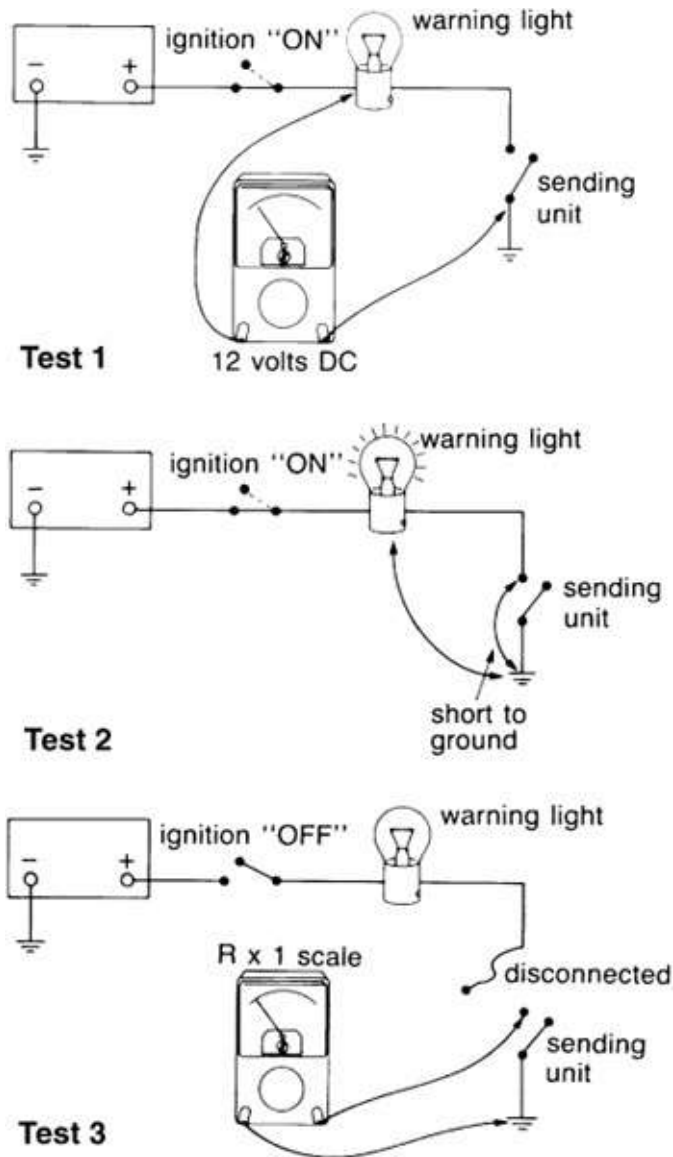

FIGURE 5-34. Testing a warning light, or alarm, circuit.
1. Test for 12 volts between the alarm or light positive terminal and a good ground (see Figure 5-34, Test 1). No volts—the ignition circuit is faulty; 12 volts—proceed to the next step.
2. To test the alarm or light itself, disconnect the wire from the sending unit and short it to a good ground (see Figure 5-34, Test 2). The alarm or light should come on. If not, conduct the same test from the second terminal on the back of the alarm or light (the one with the wire going to the sending unit) to a good ground. No response—the alarm or light is faulty; response—the wire to the sending unit is faulty.
3. If the alarm or light and its wiring are in order, the sending unit itself may be shorted (the alarm or light stays on all the time) or open-circuited (it never comes on, even when it should). Switch off the ignition, disconnect all wires from the sending unit, and test with an ohmmeter ($R \times 1$ scale on an analog meter) from the sending unit terminal to a good ground (see Figure 5-34, Test 3). A temperature warning unit should read infinite ohms, unless the engine is overheated, in which case it will read 0 ohms. An oil warning unit reads 0 ohms with the engine shut down and infinite ohms at normal operating pressures.